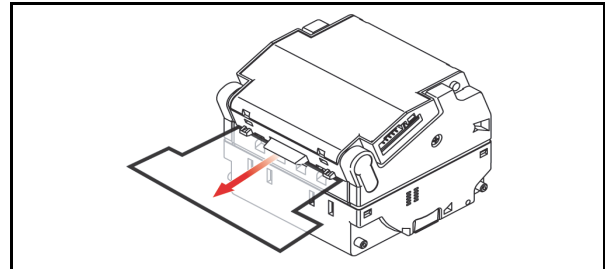

Figure 6-14 Adjustment Complete Paper Ejection
10. When the Paper adjustment is complete, the Reference Paper will exit out of the Taiko™ Unit automatically (See Figure 6-14).